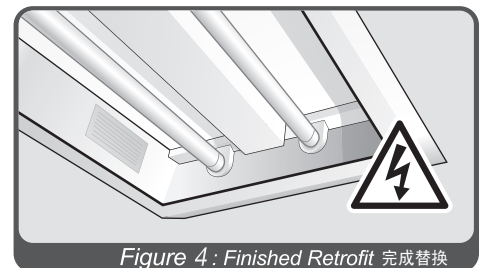

Figure 4 : Finished Retrofit 完成替换
- 9 Install the LED Linear tubes in the same manner the fluorescent tubes were removed (**Figure 4**).
按照图4进行LED灯管的安装。